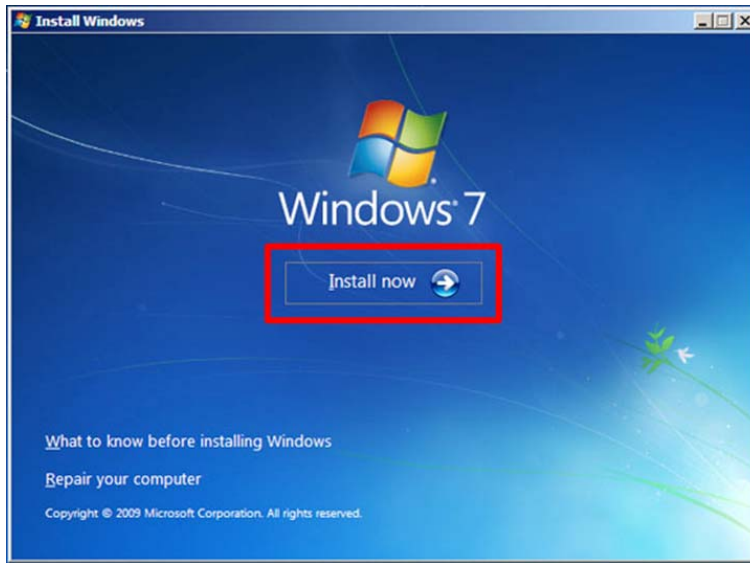
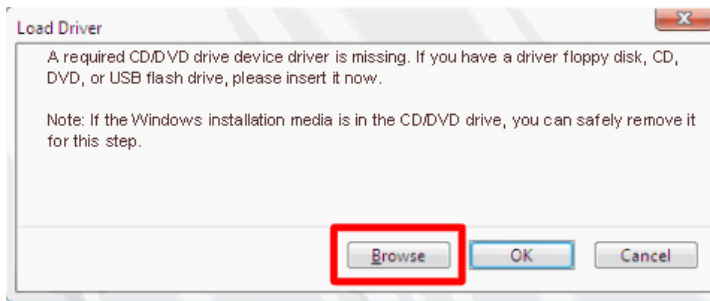

Figure 4-5: Install Now
Figure 4-6: Load Driver
- Step 2:** After clicking the **Install now** button during the OS installation (**Figure 4-5**), the Load Driver screen appears (**Figure 4-6**). Click **Browse**.